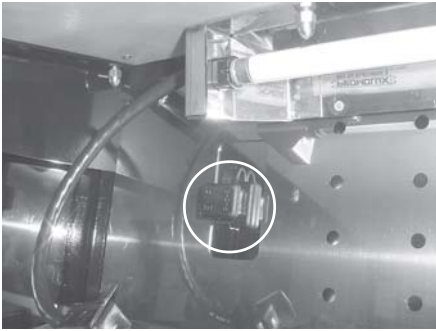

Figure 2-1
- b. Pull the cover off the receptacles on each side of the shelves. Figure 2-1.
- c. Pull the cover off the receptacles on each side of the shelves. Figure 2-1.